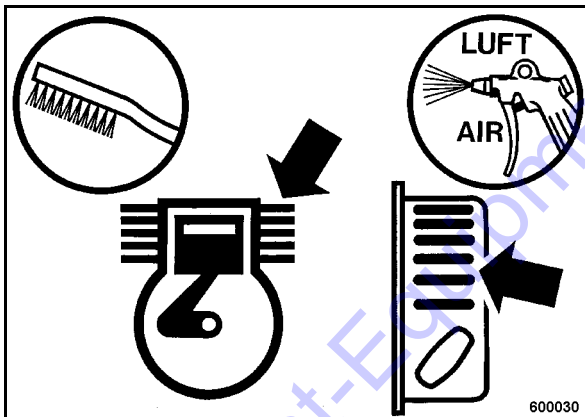

Fig. 50
- Loosen dried on dirt with a suitable brush (Fig. 50) from all cooling fins and cooling air intake openings and blow it off with compressed air .